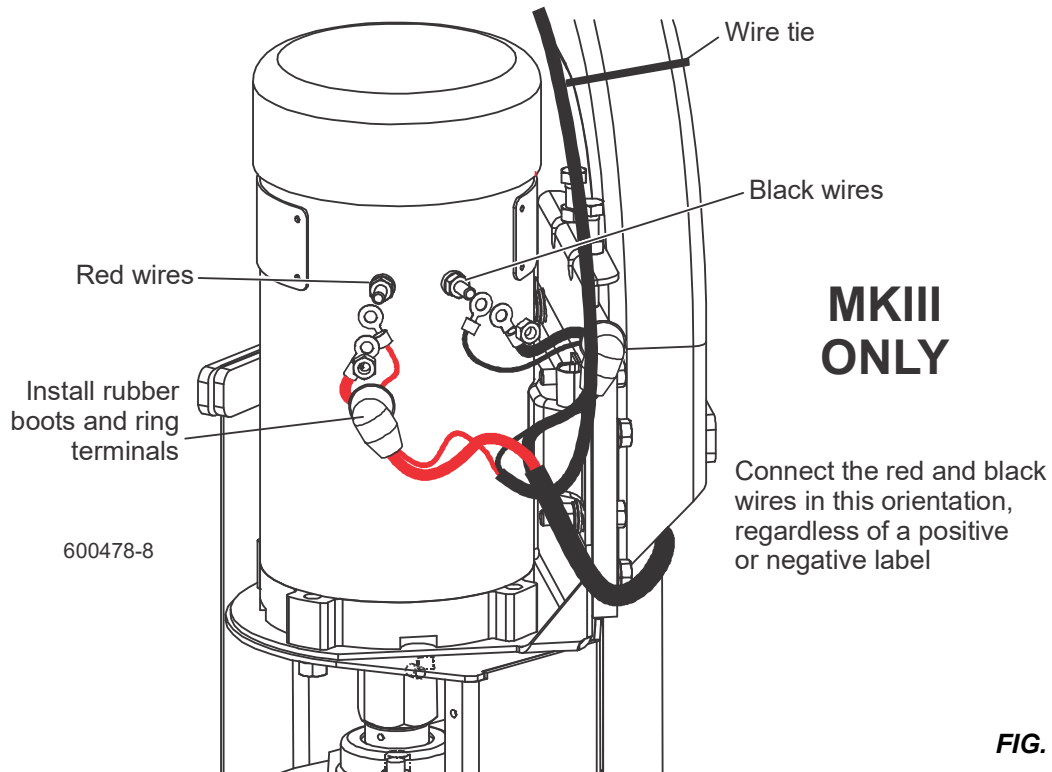

FIG. 2-6
13. Connect both black wires to the **right motor terminal** and replace the terminal nut to secure the wires. **Reference figure 2-6.**